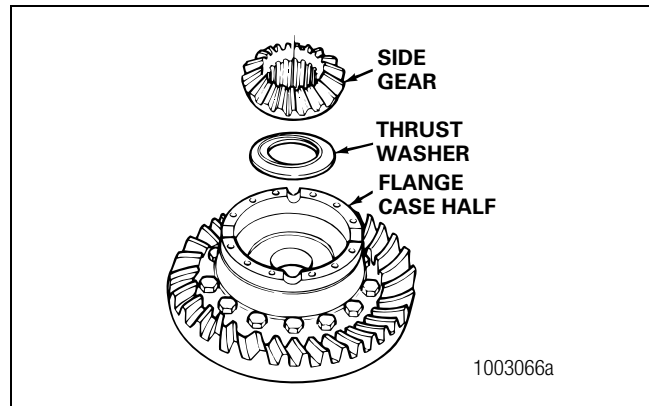

Figure 5.38
- Install one thrust washer and side gear into the flange case half. Figure 5.38.